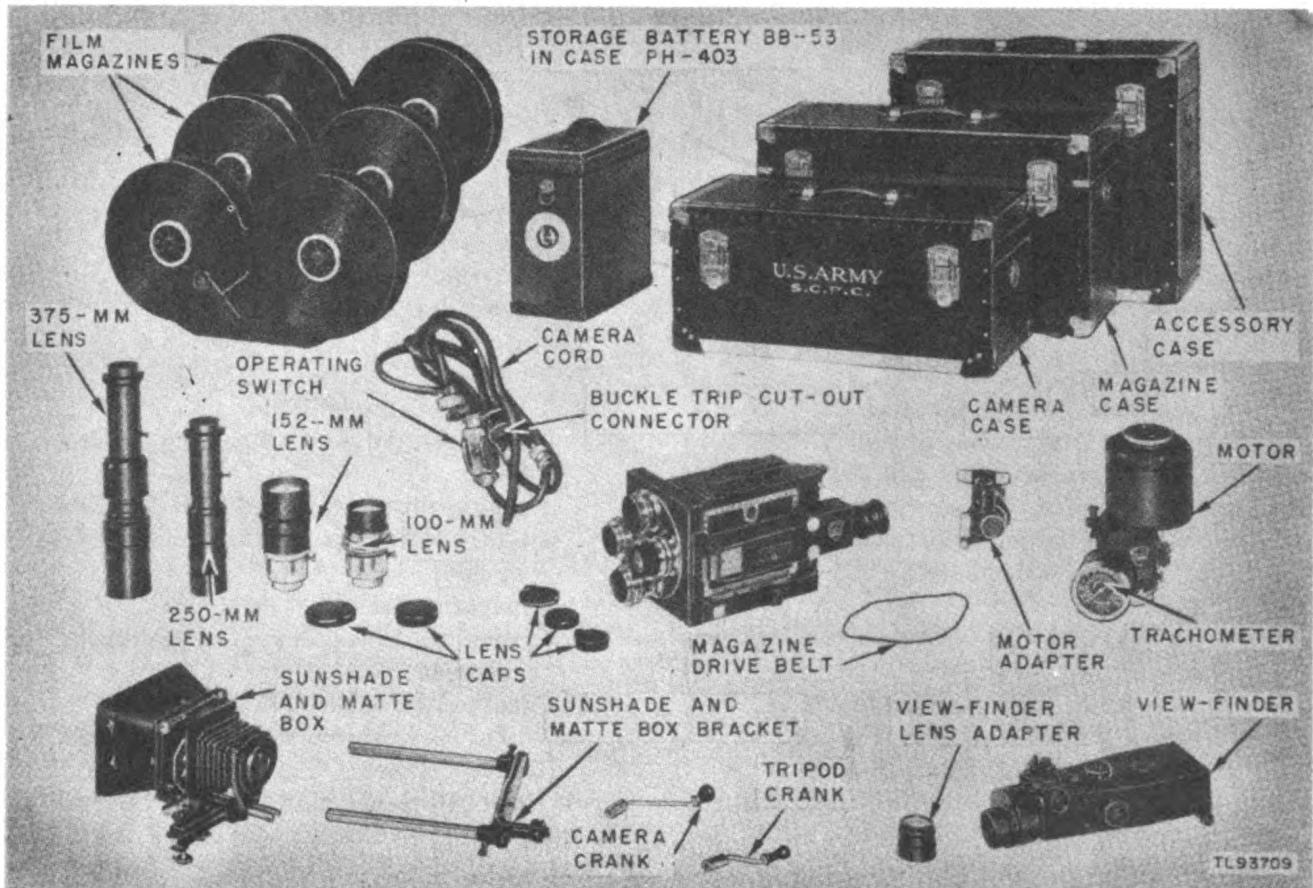

Figure 2. Components of Camera PH-274.
2. List of Components (figs. 2, 3, 4 and 5)
b. Two Batteries BB-53 (fig. 2), each in a Case PH-403, are supplied to provide power to drive the motor. These are aircraft type, 34-ampere hour, storage batteries. Ordinarily only one is used at a time, one being used for operating the camera while the other is being charged. A battery will last for about 10,000 feet of film on one charging. In cold weather the two batteries may be connected in parallel to increase the current output.
c. The motor is connected with the battery by a 12-foot, rubber-jacketed cord (fig. 2) with a Hubbell twist-lock male connector at one end to plug into the battery receptacle. At the other end a four-contact female connector plugs into the motor receptacle. A six-pole female connector in the cord plugs into the camera receptacle to operate the buckle trip cut-out switch. A toggle switch in the cord serves to turn the motor ON and OFF.
d. A motor adapter (fig. 2) is supplied to connect various flexible shaft drives and specially mounted motors to the camera, such as may be required for synchronous work. The output shaft of the motor
9. Lenses (fig. 2)